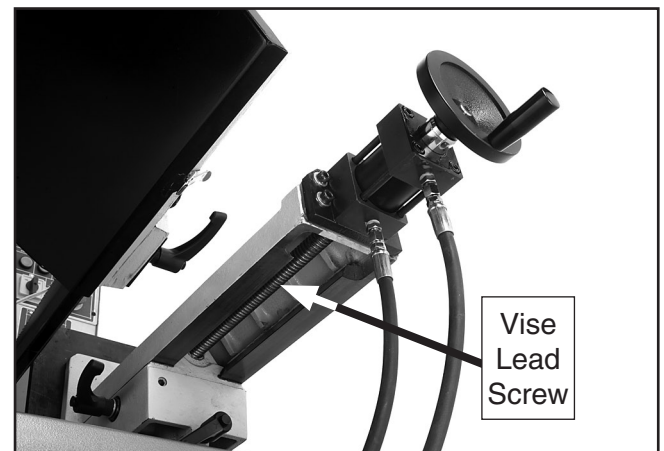

Figure 46. Vise leadscrew lubrication area.
2. Lubricate the leadscrew as needed with multi-purpose grease by applying a thin layer along the leadscrew surface (see **Figure 46**).